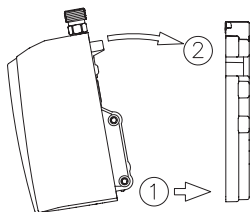

Figure 4
- Place the heater on the wall bracket and click it into position (Figure 4).